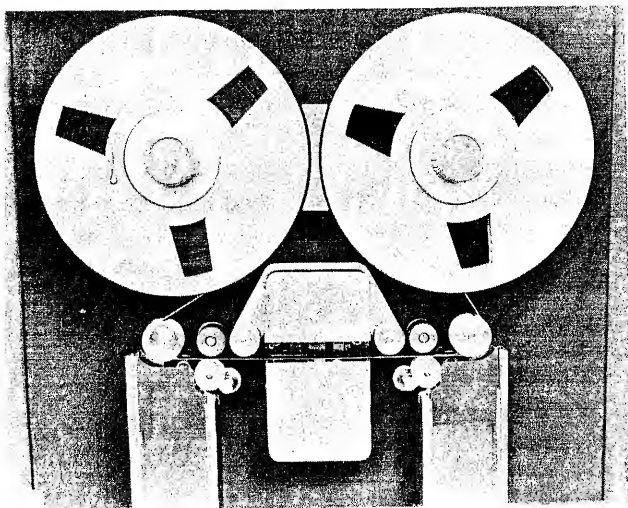

Figure 32. Tape Feeding Mechanism
5. Place the reel on the left-drive shaft, with the side on which the file protection ring is located facing toward the tape unit. Push the reel firmly against the stop on the mounting hub so that it is properly seated and aligned. Then tighten the locking hub securely (Figure 32).